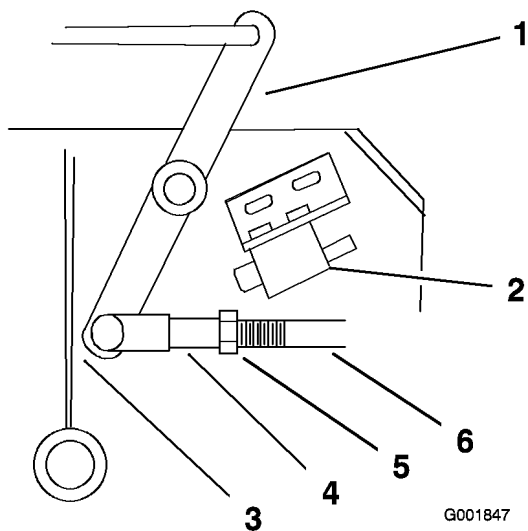

Figure 51
- Adjust the linkage length to where the lower end of the bellcrank just clears the axle support gusset (Figure 51).
- Loosen the nut against the yoke (Figure 51).